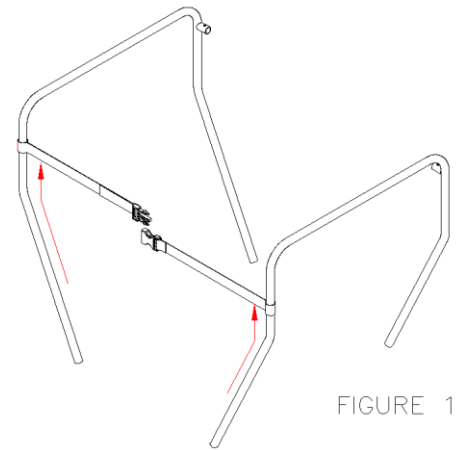

FIGURE 1
1. Slide the safety strap on the front of the right and left Handle (See Figure 1).